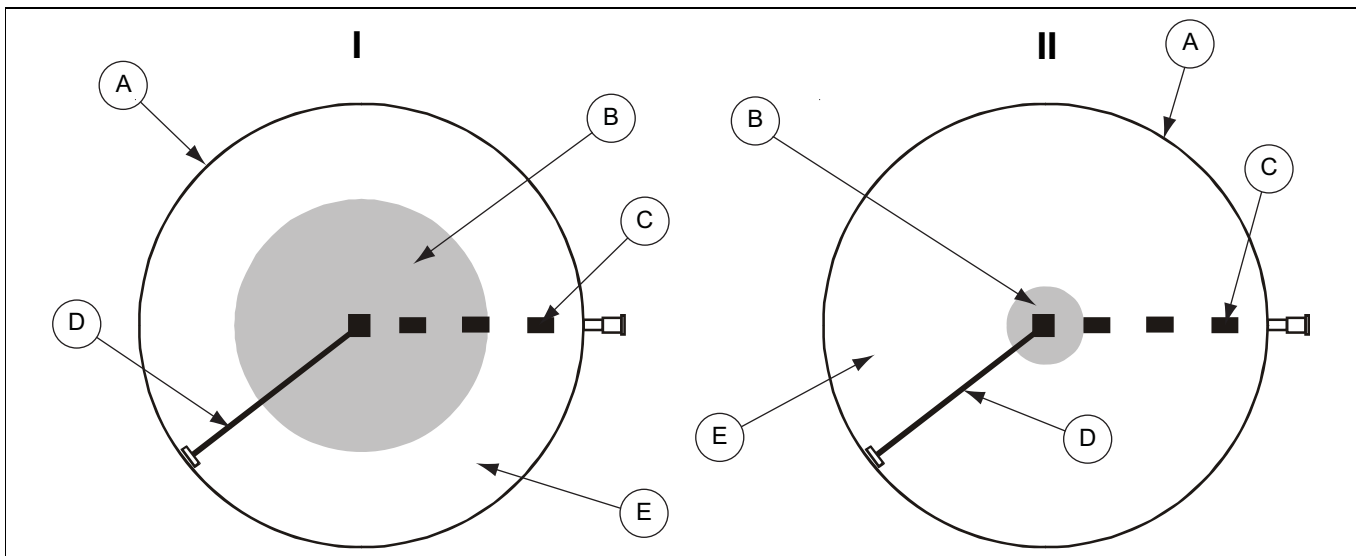

Figure 5H Top View of Bin
2. Clean (scoop and sweep by hand) the outer area of the floor into a circular pile towards the center of the bin. (See Figure 5H \(I\).)
6. Scoop and sweep by hand the remaining floor area to the center of the bin. (See Figure 5H \(II\).)